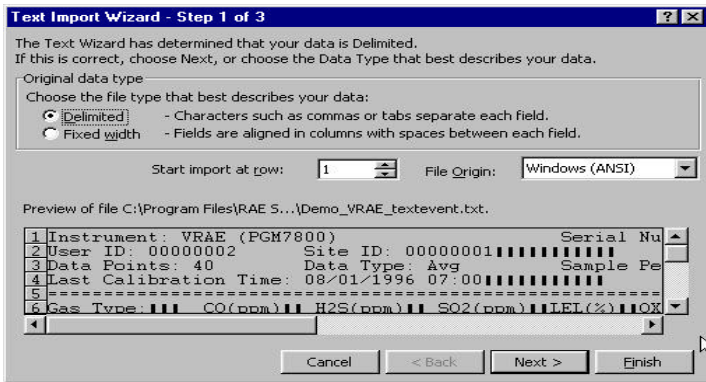

Figure 32. Text Import Wizard Dialog Box
2. Click the **OK** button, a **Text Import Wizard** dialog box will open, as shown in Figure 32.